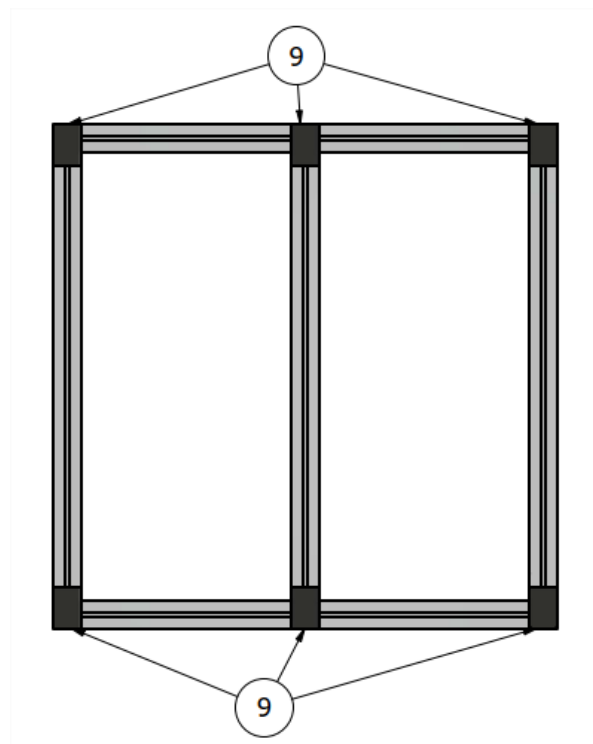

FIG. 3 Bonding the rubber plates
3. Turn the base over and glue the rubber plates **9** as shown in Figure 3.